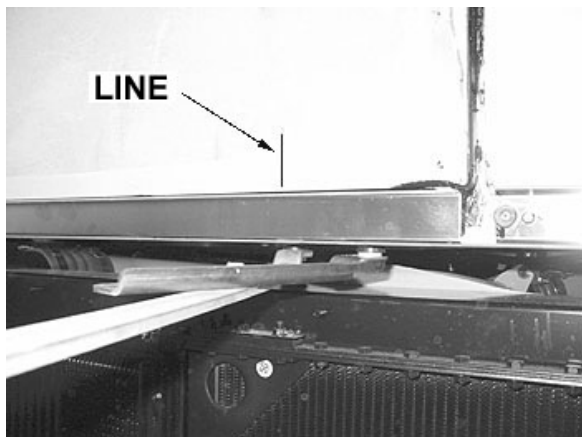

FIGURE 62: REFERENCE LINE
2. Using a rubber mallet, adjust the lower part of pantograph arm in order to get  $4 \pm 1$  mm between lateral panel and engine door (Refer to Figure 62 and Figure 63).